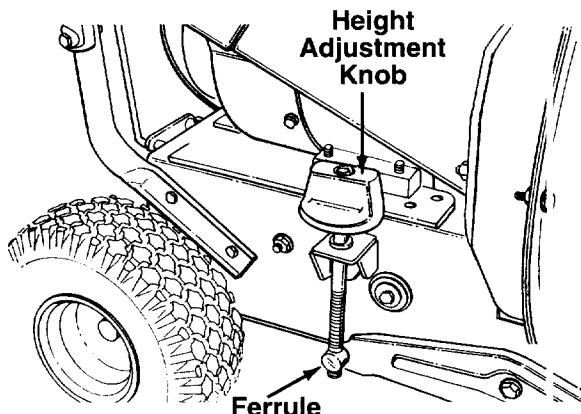

FIGURE 10.
- A. The height adjustment knob is located on the right hand side of the chipper-vacuum. See figure 10 for its actual location. Adjusting the height here will also raise or lower the height of the nozzle. For further adjustment of the nozzle height to control the flow, see the next section.